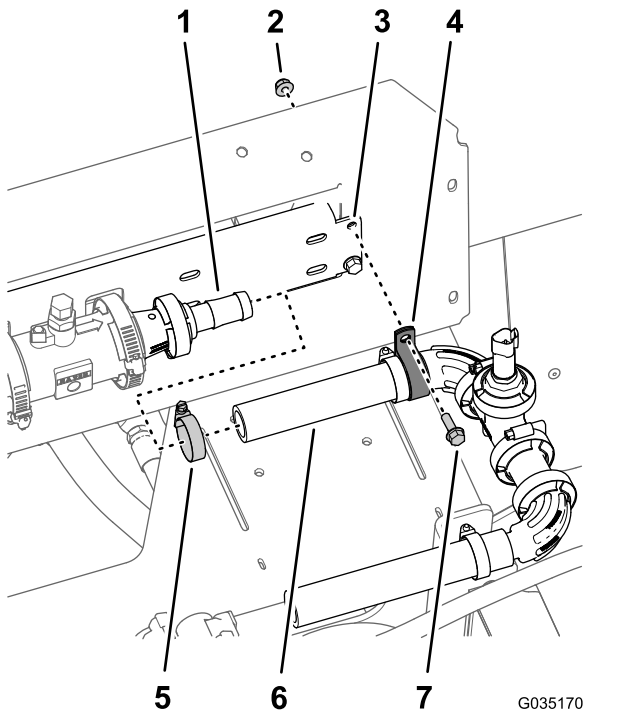

Figure 59
1. Assemble the hose (1 x 7-1/4 inches) that is attached to the pressure transducer and manifold (Figure 59) onto the barbed-flange fitting (1 inch).
2. Loosely secure the hose to the barbed-flange fitting with a hose clamp (Figure 59).
3. Secure the pressure transducer and manifold to the slot in the manifold mount with a R-clamp (Figure 59) and the flange-head bolt (1/4 x 3/4 inch), and flange locknut (1/4 inch) that you removed in step 5 of Disassembling the Boom-Section Valves from the Manifold Mount (page 24).